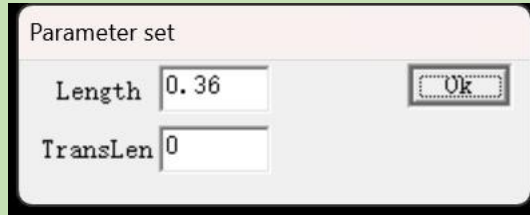
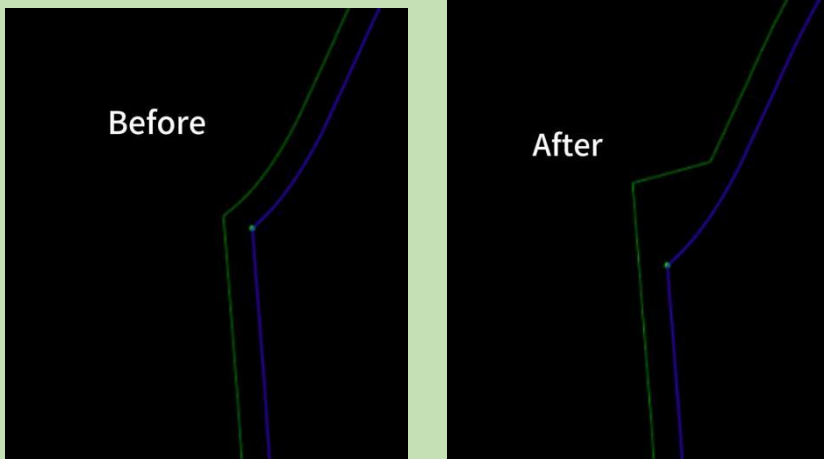

Figure5-17
Figure5-18
3. Enter the length from the cusp to the right-angle side as shown in Figure 5-17, and then click OK. The comparison figure before and after setting the right angle with limited length is shown in Figure 5-18.